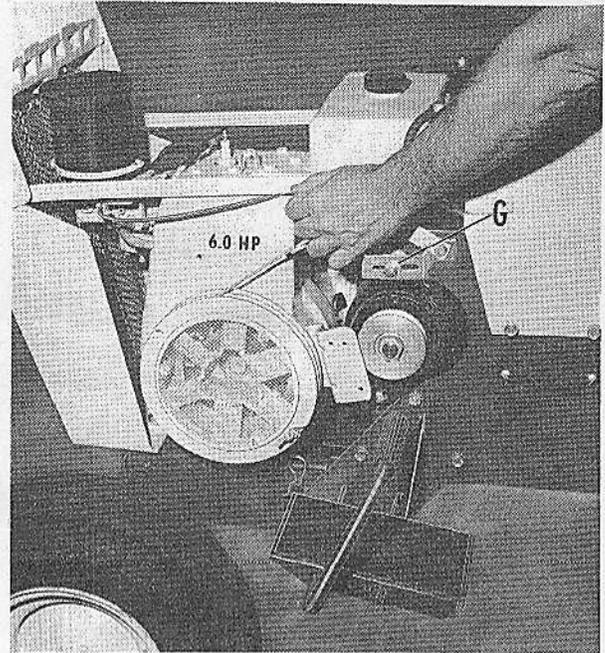

FIG. 22
- b. Loosen nut (G, Fig. 22), and push motor-generator forward. This will take tension from V-belt. Remove belt.
- c. Secure a piece of rope and tie a knot in one end. Place this knot into notch in engine pulley, refer to Fig. 22.
DO NOT REPLACE V-BELT OR GUARD WHILE ENGINE IS RUNNING. The above method of starting is only a means to get unit to nearest source of battery charging. **DO NOT** operate tractor any longer than necessary with V-belt and guard removed. Stop engine and replace as soon as possible. Be sure to have proper tension on belt, retighten nut (G, Fig. 22).